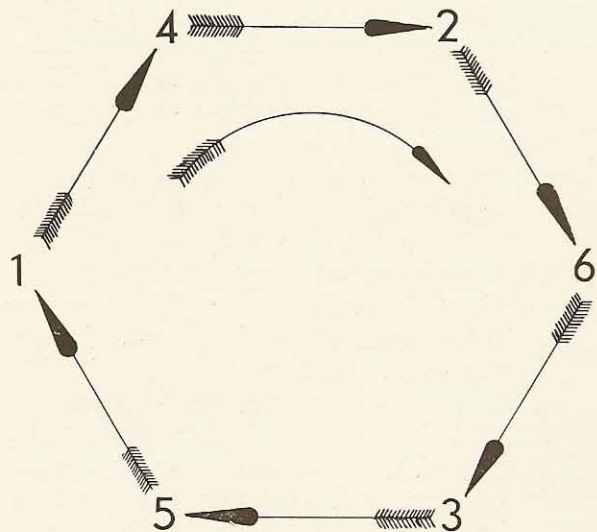

FIGURE 10-11
31. TIMING ROUTINE STARTING AT ANY CYLINDER: This timing routine has been given as starting at No. 1 cylinder. The engine can be timed, starting at any cylinder providing the firing order shown in Figure 10-11 is followed in rotation. This timing circle represents two crankshaft revolutions.